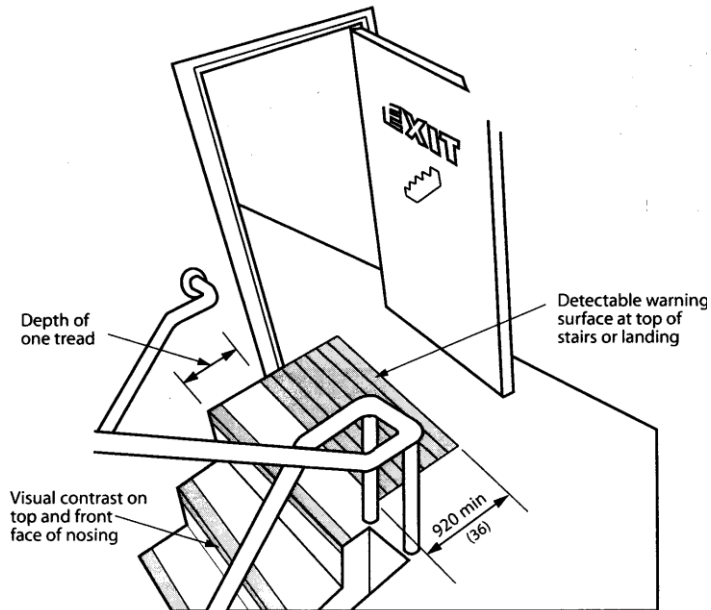

Figure 9
- Detectable warning surfaces shall contrast visually with adjoining surfaces, being either light on dark or dark on light. This is illustrated in COL Figure 9 below.